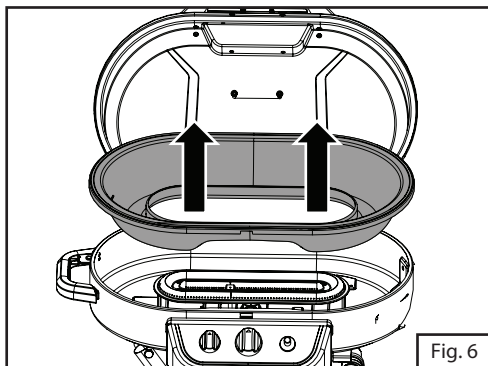

Fig. 6
4. Remove the water pan and set aside. (Fig. 6)